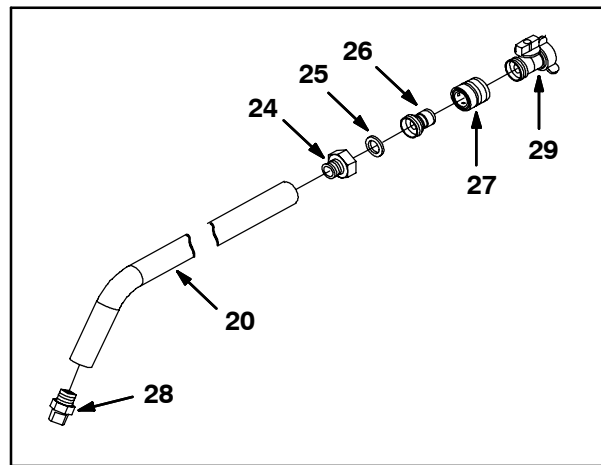

FIG. 9
28. Apply sealant onto the threads of the nozzle (28) and thread the nozzle into the wand (20). Refer to Fig. 9.
29. Apply sealant onto the threads of the straight brass fitting (24) and thread the fitting into the other end of the wand (20). Refer to Fig. 9.
30. Insert the rubber flat washer (25) into the straight brass fitting (24) installed in the previous step. Refer to Fig. 9.
31. Thread the hose nipple (26) into the spray nozzle coupling (27). Refer to Fig. 9.
32. Thread the hose nipple (26) / spray nozzle coupling (27) assembled in the previous step into the straight brass fitting (24). Refer to Fig. 9.
33. Thread the shutoff valve (29) into spray nozzle coupling (27). Refer to Fig. 9.